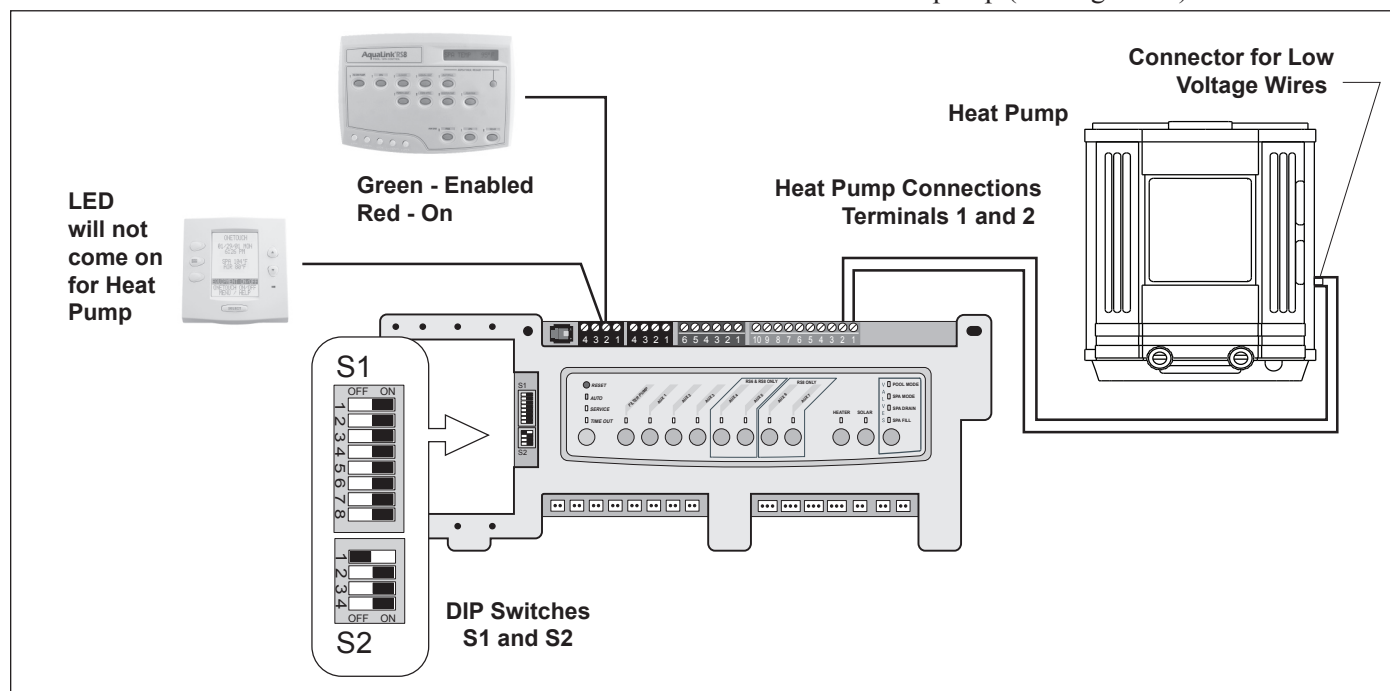

Figure 13. AquaLink RS to EE-Ti Heat Pump
2. Connect two (2) wires to the AquaLink RS green 10-pin terminals 1 and 2.
3. Put DIP S2-1 (pin #1 of the 4 position DIP switch) into the ON position (see Figure 13).